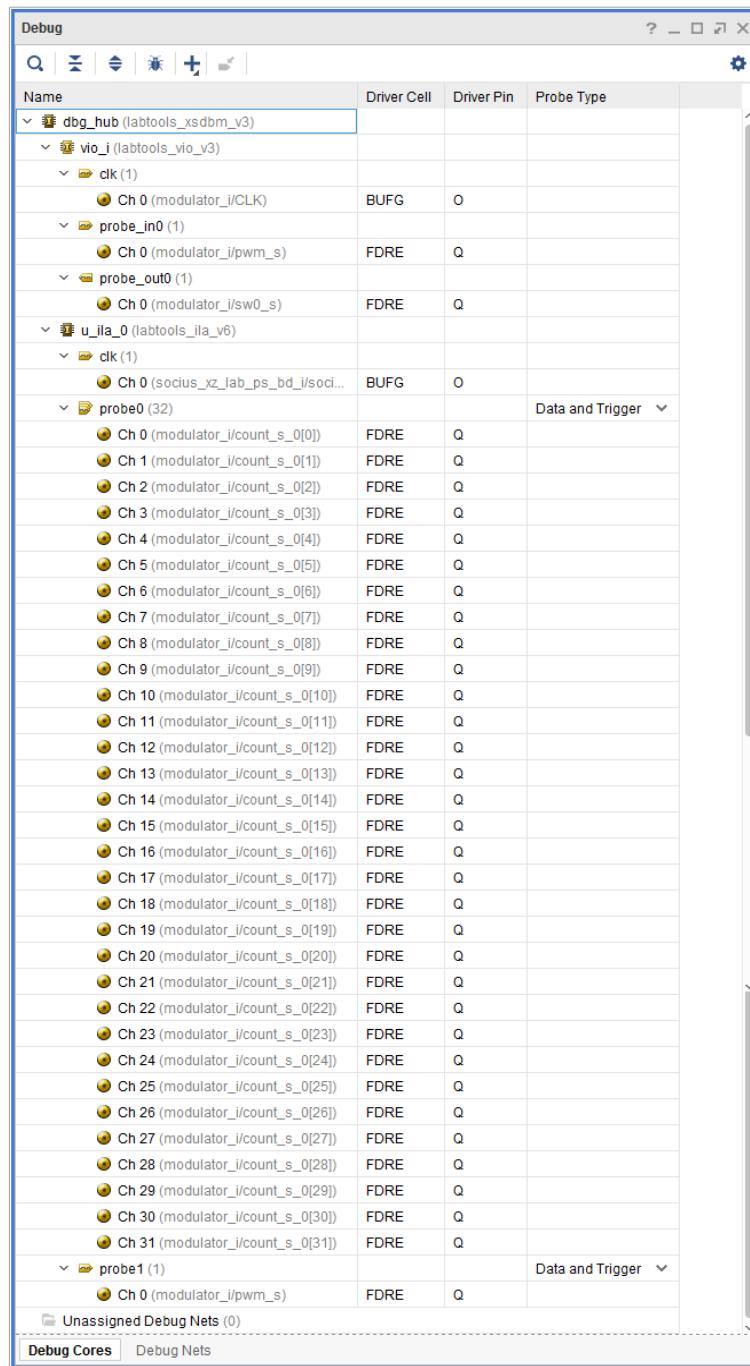

Figure 11.30: Debug window with assigned debug nets
30. The debug nets are now assigned to the ILA v6.2 debug core, what you can see in the **Debug** window, see Figure 11.30.